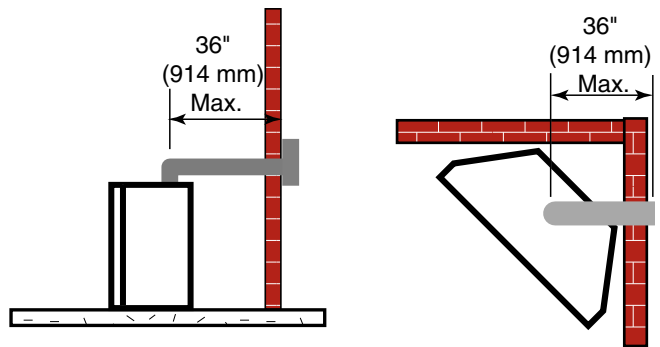

Figure 15 - Maximum Horizontal Run with No Rise
- A minimum of 24" is required before a 90° elbow. If a 90° elbow is fitted directly after 24" vertical section mounted to the top of the fireplace, the maximum horizontal vent run before the termination or a vertical rise is 36" (914 mm). *Figure 15*